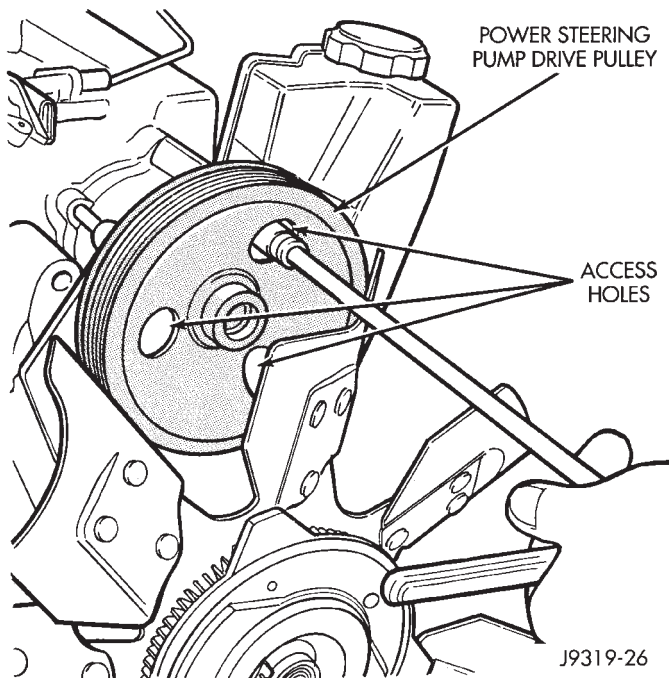
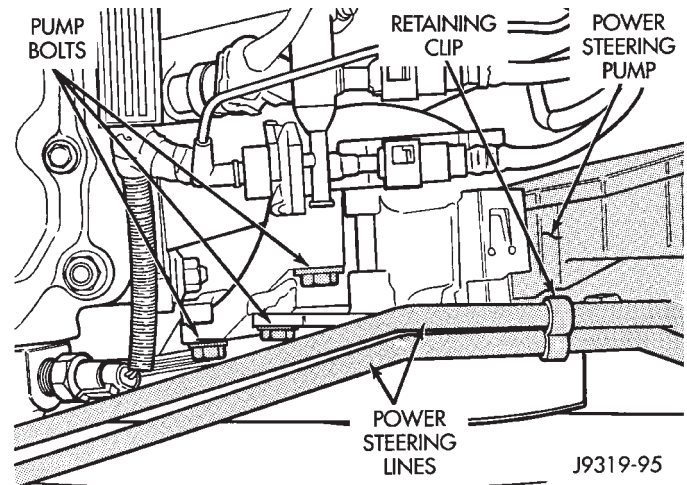

Fig. 7 Pump Mounting Screw Removal/Installation
Fig. 8 Power Steering Pump Mounting
(3) Remove the screws retaining front bracket and pump to the rear bracket (Fig. 7, 8).
(5) Loosely assemble screws through front bracket, pump and into rear bracket.
(6) Install screws that attach the front bracket to the rear bracket (Fig. 8). Tighten the screws to 27 N·m (20 ft. lbs.) torque (Fig. 7).